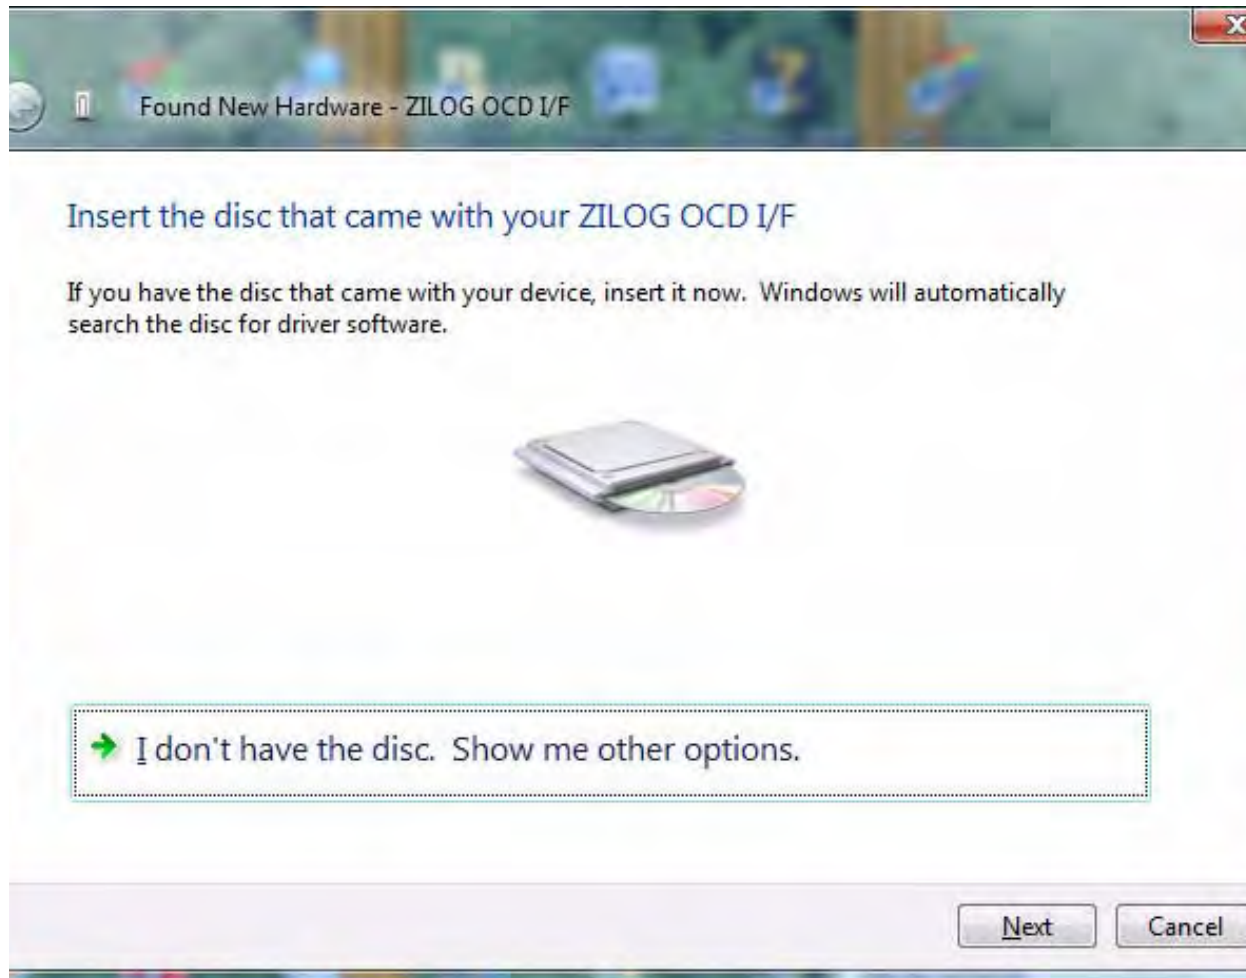
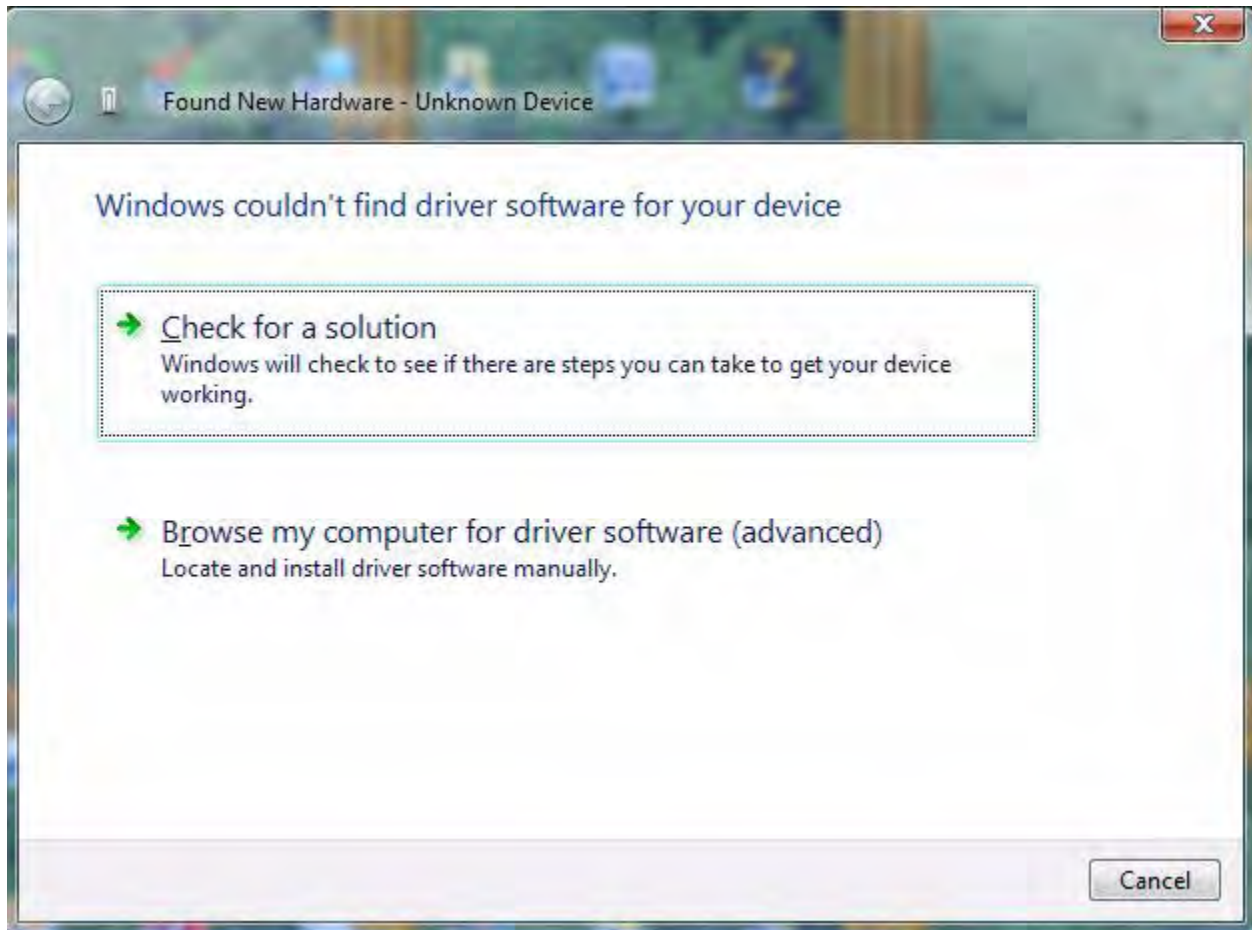

Figure 33. Install Device Driver Dialog, Windows Vista
Figure 34. Couldn't Find Driver Dialog, Windows Vista
4. When the **Insert the Disc** dialog appears, as shown in Figure 33, select **I don't have the disc. Show me other options.** Click the **Next** button to display the dialog that follows, which is shown in Figure 34.